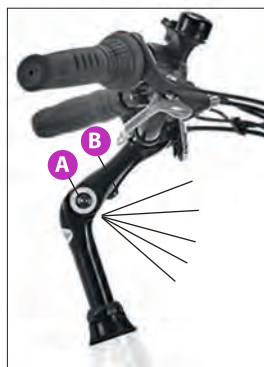

Fig.2 Multi position Stem
- Step 1.** Loosen allen key bolts **A** and **B** **Fig.2**